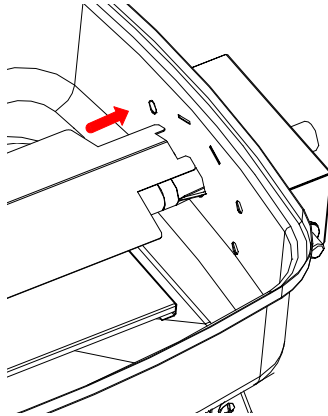

Fig. 7A
*Procedure:* Install the Burner Heat Tent by inserting the tabs on the right side through the slots on the side of the firebox as shown in Fig. 7A.